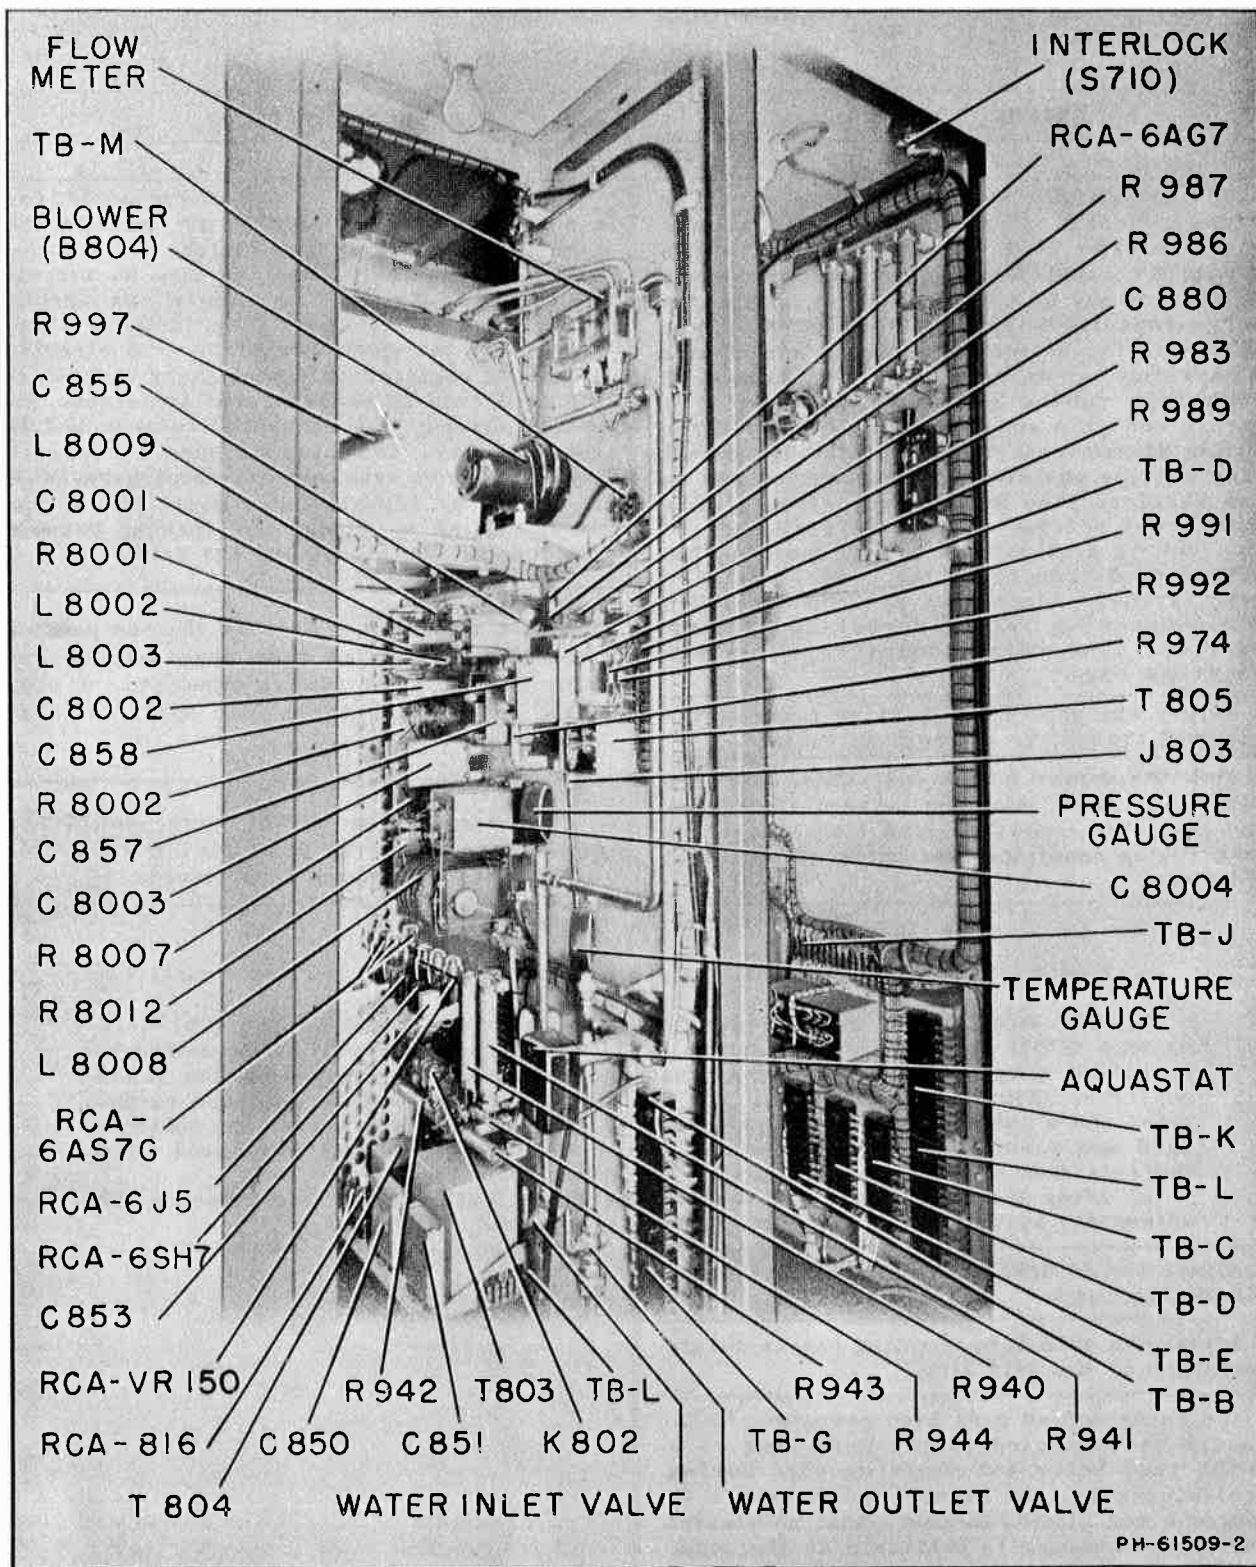

Figure 55 - Modulator, Visual (Frame 8, Rear View - Right)
Replace the type 502A tubes previously removed and bias the circuit to cut-off by rotating control R988 (R188) to the extreme clockwise position. Control R988 (R188) is adjacent to R987 (R187) as shown on Figure 55 and (68).